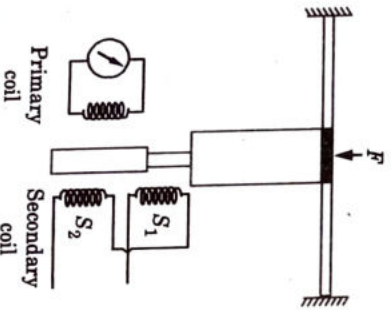

Fig. 4.16.2. LVDT force transducer.
2. LVDT can be used together with elastic elements such as diaphragm to produce LVDT force transducer. The extended core of LVDT is fixed to the diaphragm as shown in Fig. 4.16.2.